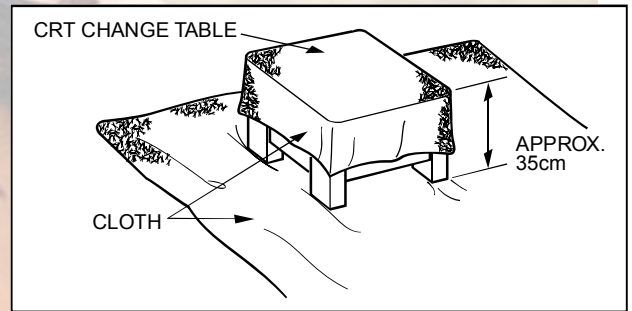

Fig.3
- (1) Putting the CRT change table on soft cloth, the CRT change table should also be covered with such soft cloth (shown in Fig. 3).
- (2) While keeping the surface of CRT down, mount the TV set on the CRT change table balanced well as shown in Fig. 3.